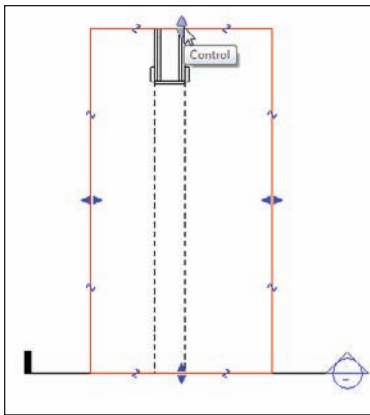

FIGURE 3.55 Stretching the crop region to view the detail
1. Select the window surrounding the detail, as shown in Figure 3.55.
2. You will now see four blue stretch arrows at the midpoint of each line. Pick the top stretch arrows, and stretch the top region up until you can see the opening jamb, as shown in Figure 3.55.